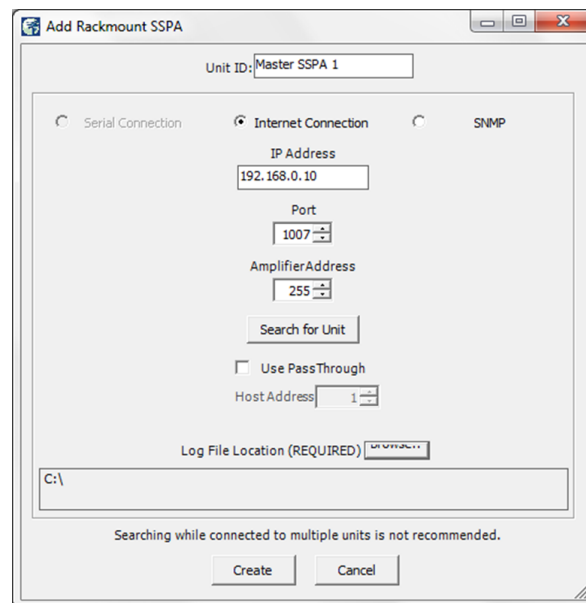

Figure 7-8: Dialog Window, Add Rackmount SSPA (Outdoor SSPA Controllers)
2. A new dialog window will open. See **Figure 7-8**.